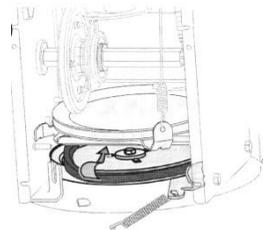

Fig. 18
- The cutter is attached to the spiral spindle with two safety pins and a cotter pin. If the cutter hits a foreign object or ice build-up, the thrower is designed so that the pins rotate. See Fig. 18.
- Slip the steering belt between the friction wheel and its disc. See Fig. 18.